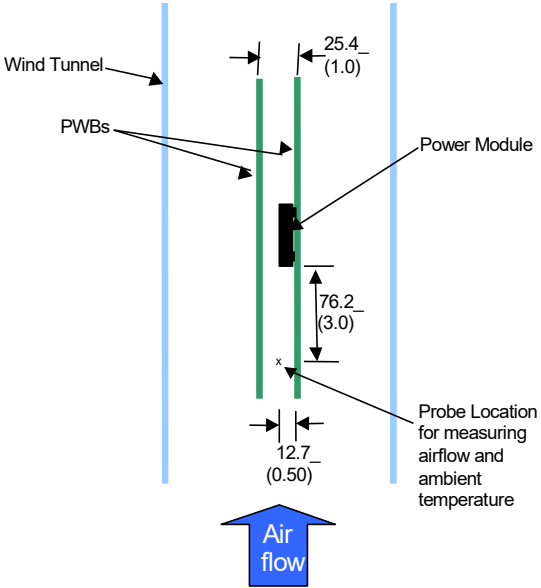

Figure 28. Thermal Test Setup.
Power modules operate in a variety of thermal environments; however, sufficient cooling should always be provided to help ensure reliable operation. Considerations include ambient temperature, airflow, module power dissipation, and the need for increased reliability. A reduction in the operating temperature of the module will result in an increase in reliability. The thermal data presented here is based on physical measurements taken in a wind tunnel. The test set-up is shown in Figure 28. The preferred airflow direction for cooling the module and the thermal reference points, Tref used in the specifications are shown in Figure 29. For reliable operation the temperatures at these points should not exceed 120°C (IC300) and 115°C (C202). The output power of the module should not exceed the rated power of the module ( $V_{o,set} \times I_{o,max}$ ). Please refer to the Application Note “Thermal Characterization Process for Open-Frame Board-Mounted Power Modules” for a detailed discussion of thermal aspects including maximum device temperatures. Increased airflow over the module enhances the heat transfer via convection. The thermal derating of figures 2, 8, 14 and 20 show the maximum output current that can be delivered by each module in the indicated orientation without exceeding the maximum Tref temperature versus local ambient temperature (TA) for several air flow conditions. The thermal derating curves were generated using a 12 layer evaluation board with 3oz copper in inner layers and 2 oz in outer layers.